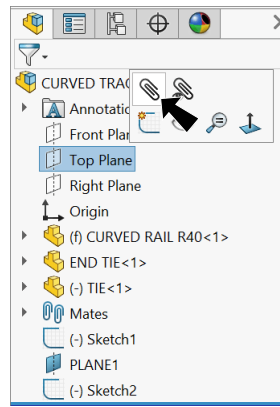

Fig. 19
Step 1. Click **Top Plane**  in the Feature Manager and **Mate**  on the context toolbar, **Fig. 19**.